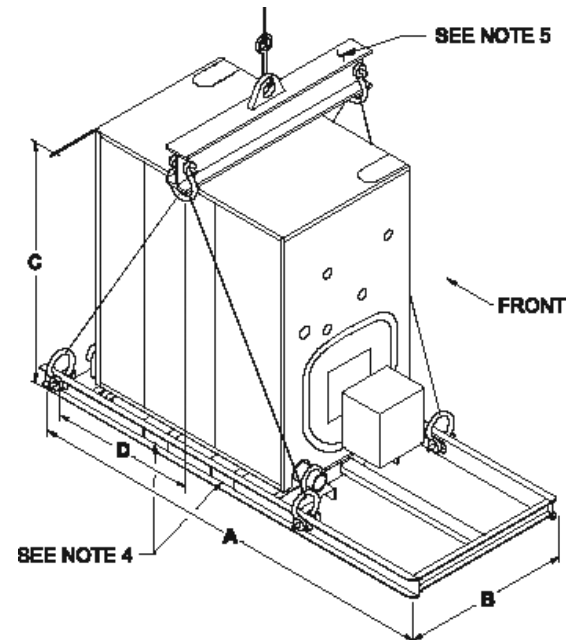

Figure 30: Shipping Information
1. The packaged boiler comes on its own shipping skid (see Figure 30) and the assembled block is hydrostatically tested at the factory. Once the boiler is in its final position, perform another hydrostatic test at 1 1/2 times the working pressure of the boiler.